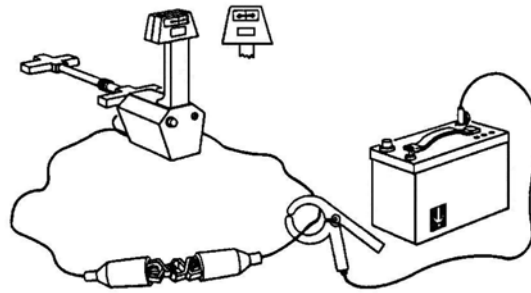

Figure 3-4: Configuration for Testing the Metroclamp
- 19 Keeping the Conductive Attachment in the loop configuration shown in Figure 3-4, unplug the attachment from the Transmitter and plug it into the Metroclamp jack on the back of the 810 Receiver. Position the Receiver on the floor or ground so that you can read the field strength readout.